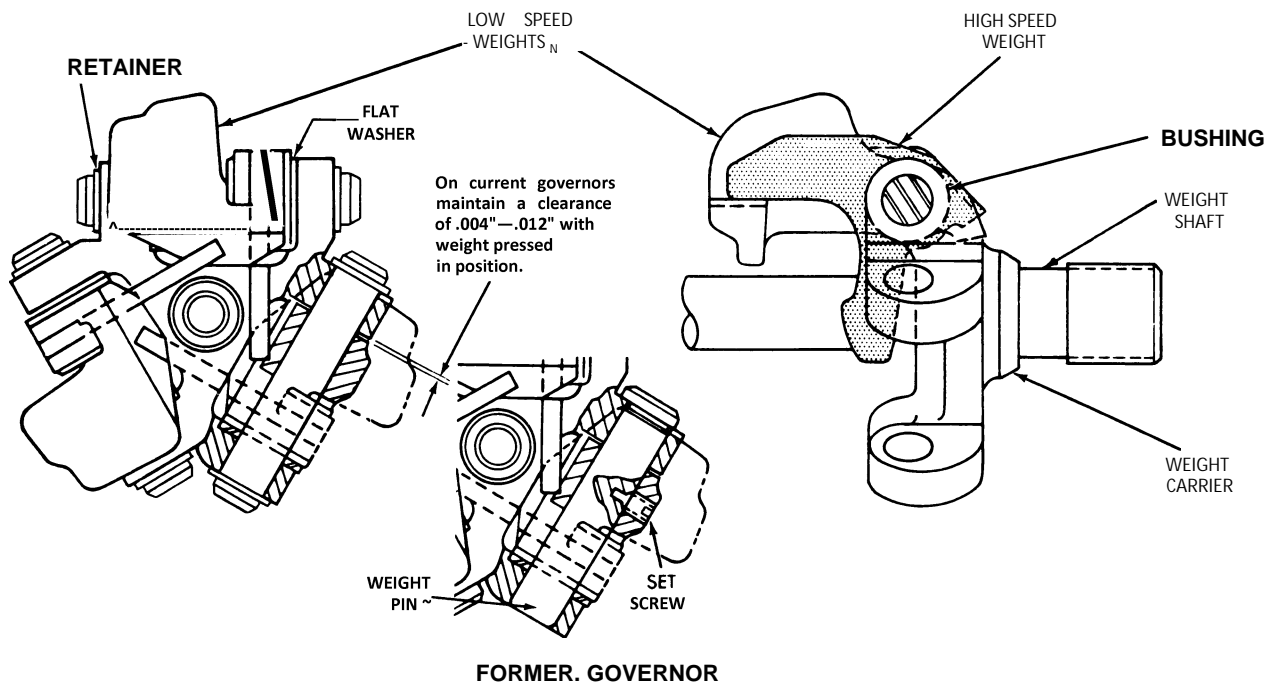

Fig. 10 - Cross Section of Governor Weight Assemblies
- d. Slide the riser thrust bearing (43) and riser (44) from the shaft.
- e. Remove the weight shaft bearing (54) from the governor housing.
- a. Mark the low and high-speed weights and carrier with a center punch for identification. Also, note the position of the flat washers so that the parts can be replaced in their original position (Fig. 10).
- b. If removal of the weights from the carrier is necessary on current governors, refer to Fig. 10 and remove the retainers from the weight pin. Press the pin from the low-speed weight. The high-speed weight is not a press fit. On former governors, remove the set screw from the low-speed weight with a 3/32" Allen wrench. Then, remove the weight pin and weight from the carrier.
- d. With current governors, refer to Fig. 10 and install a retainer on either end of the weight pin. Note the matchmarks placed on the weight carrier and weights at the time of disassembly. Then slide the weight pin through the carrier, flat washer and high-speed weight and its bushing. Place the low-speed weight in position. Then, press the weight pin through the low-speed weight and carrier until the retainer bottoms against the carrier. Maintain a clearance of .004"-.012" with the weight pressed in position. To maintain this clearance, insert a .004"-.012" shim between the low-speed weight and carrier while pressing the pin in position. Remove the shim and install the second weight pin retainer. Install the second and third pair of weights in the same manner.
- e. With former governors, refer to Fig. 10 and install the governor weights, flat washers, weight pin and set screws. Stake the set screws at two places. Use Loctite sealant grade C or CV or equivalent, and tighten the set screw to 20 **lb-in** (2.26 N◀m) torque.